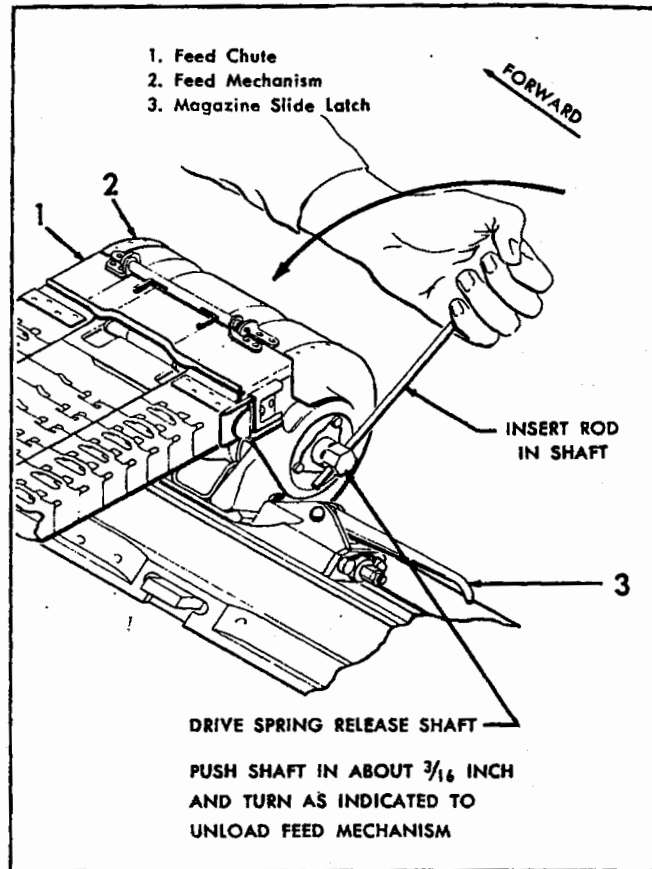

Figure 4-145. Unloading Feed Mechanism.
b. **UNLOADING.** (See figure 4-145.) When the ammunition has been completely expended, the starwheel housing assembly will spin and automatically unwind the drive-spring. When it is necessary to unload a belt of ammunition from the feed, the drive-spring must be unwound manually. This is done by pushing in the drive-spring release nut on the aft end of feed mechanism, and turning it in the opposite direction to that of winding. About three quarters of a turn will completely unwind the drive-spring. With the spring unwound, the belt can be pulled from the feed mechanism as the release nut is further rotated in the unwinding direction.